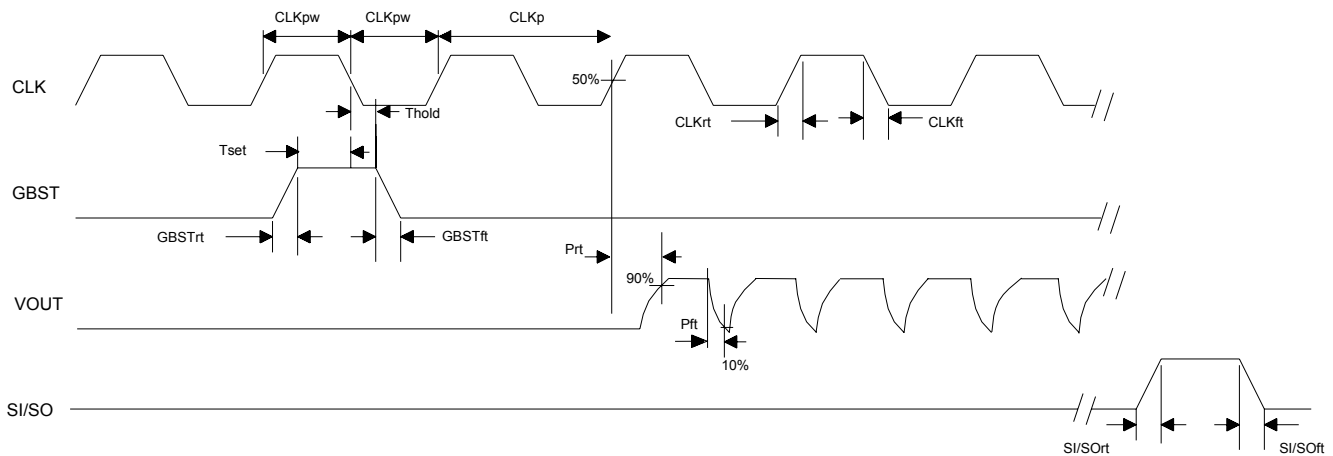
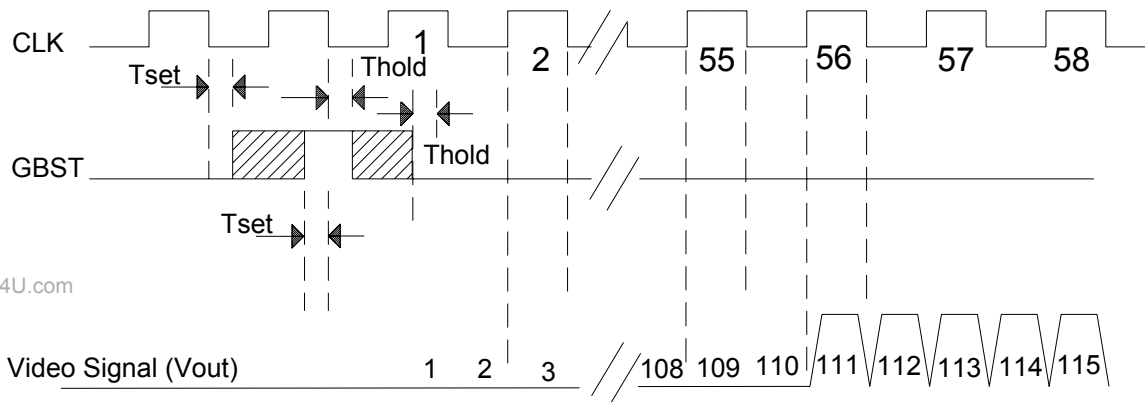

Figure 6: Rise and Fall Times for both the 600/1200dpi Modes
Figure 7: Timing of GBST-to-first Pixel of the First Sensor for both the 600/1200dpi Modes
1. The shift register will load on all falling CLK edges, so setup and hold times (Tset, Thold) are needed to prevent the loading of multiple start pulses. This would occur if the GBST remains high during two fallings edges of the CLK signal. See Figure 7.
Figures 6 and 7 detail the timing of the CLK, GBST, Vout, and SI/SO signals in further detail, which have the same timing requirements for both the 600 and 1200dpi modes. The rise and fall times are listed in Table 5. In Figure 7, note that pixel 111 is the first active pixel.